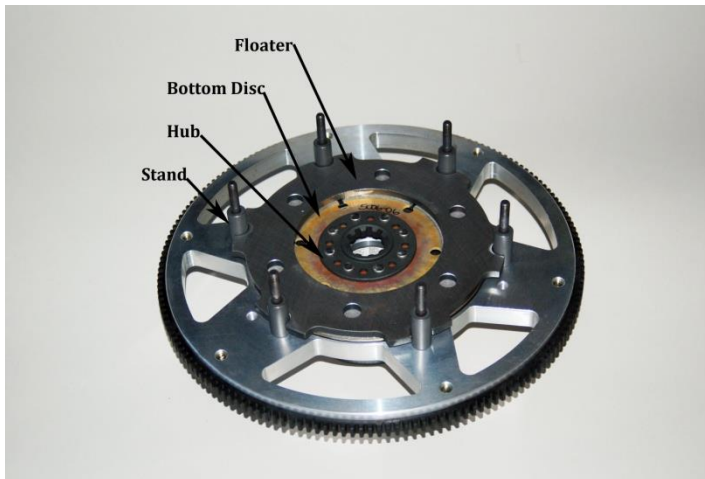

Figure 4
- 5) Note the engagement of the floater to the stands. Note the hub positioning when removing the bottom disc. This side of the disc assembly must be toward the transmission. The flat side of the disc assembly with the large rivet heads must be toward the flywheel. See Figure 4